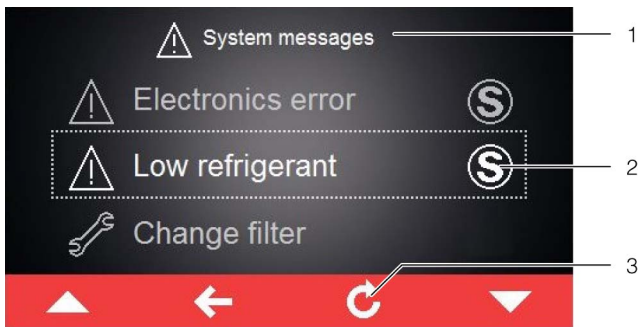

Fig. 49: Screen showing error messages
If an error message applies that cannot be resolved by the operator himself and which is not reset automatically, the "Service" symbol will appear after the error message and in the control bar next to the symbol for system messages (fig. 49, item 2).